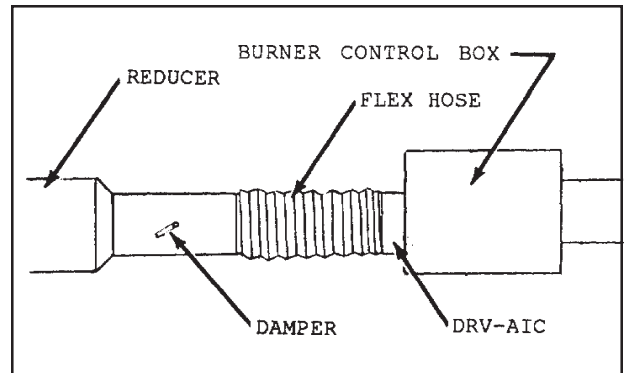

Figure 2.23
- A wall inlet vent with screen (DRV-5-WIV) **must** be used as the inlet through the wall for the optional blower assisted outside air supply (see Figure 2.23). A 5" duct must be used between the inlet vent and air supply blower.